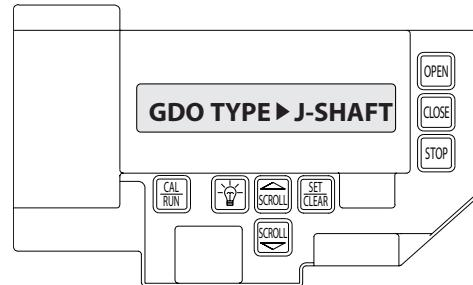

Figure 3
Operator Type Fig. 3
- 2) Press SCROLL  key until display reads "GDO TYPE >." **Figure 3.**